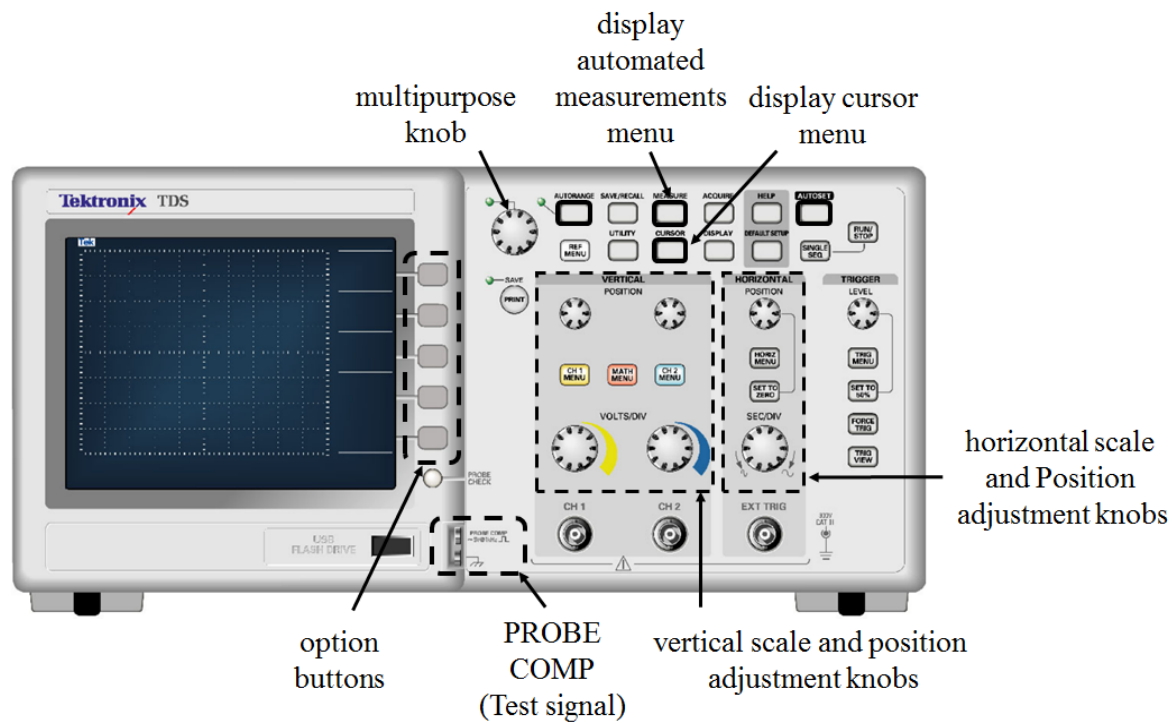

Figure E1.1 Front panel of the TDS1012B Digital Oscilloscope
The Oscilloscope can be set to display 1 signal or 2 signals (refer the front panel of TDS1012B Digital Oscilloscope in Figure E1.1):
2. Press the first option button (refer to Figure E1.1) from the top to active Measure 1 menu. Select Type **Frequency**. Press the Back option button.